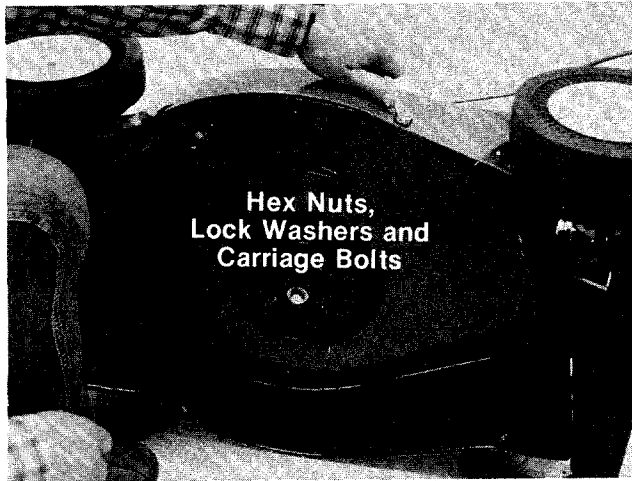

FIGURE 25.
8. Remove the baffle from the deck by removing three hex nuts, lock washers and carriage bolts, then three self-tapping screws located near the discharge opening. See figure 25. A 7/16" wrench and 5/16" wrench are required.